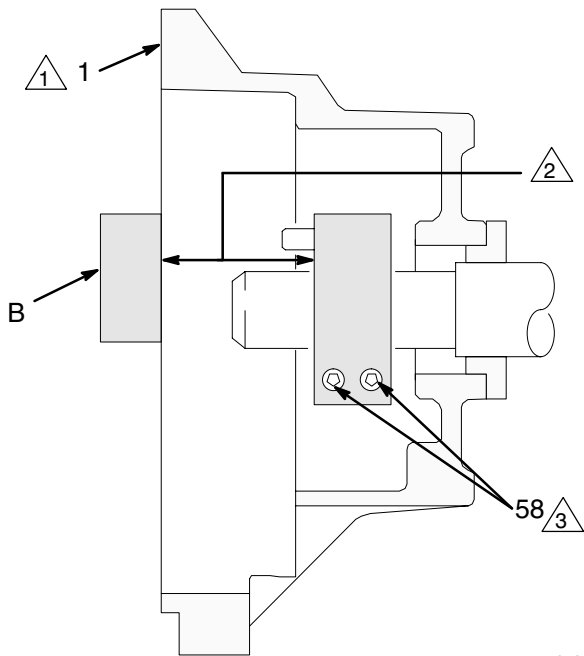

Fig. 22
3. Press the **clamp (55)** onto the engine shaft (A). Maintain the 1.41 inch ± 0.01 (35.8 ± 0.25 mm) dimension shown in Fig. 22.